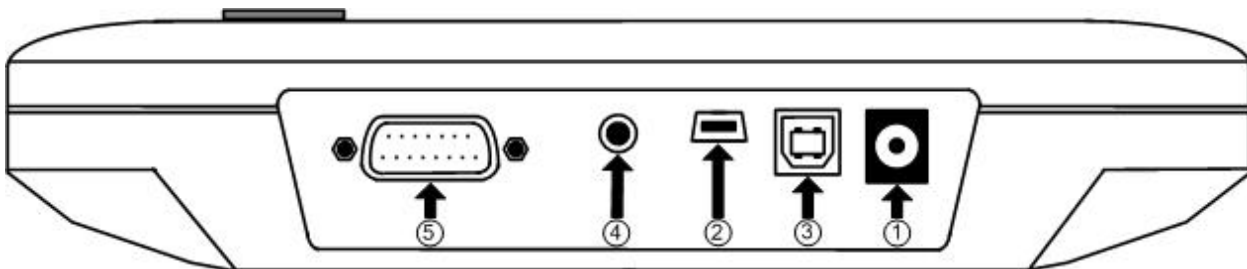

Fig. 1-2 842-PE Top Panel
When delivered, the 842-PE just needs the battery pack installed and it is ready for use. Just insert a detector head in the Probe Input Jack (#5 in Figure 1-2) and press the I/O key. If the meter doesn't turn on, the battery pack may be drained. Please turn it off, plug in the charger and let it charge for several hours before attempting to use again.
- 2- **Turn the 842-PE off** and connect a compatible power or energy detector (see Table 1-2 below) to the 842-PE using the **PROBE INPUT JACK** (see Fig. 1-2). It is necessary to turn the 842-PE off before connecting a new detector in order to prevent any loss of information from the detector EEPROM and to read the detector EEPROM..